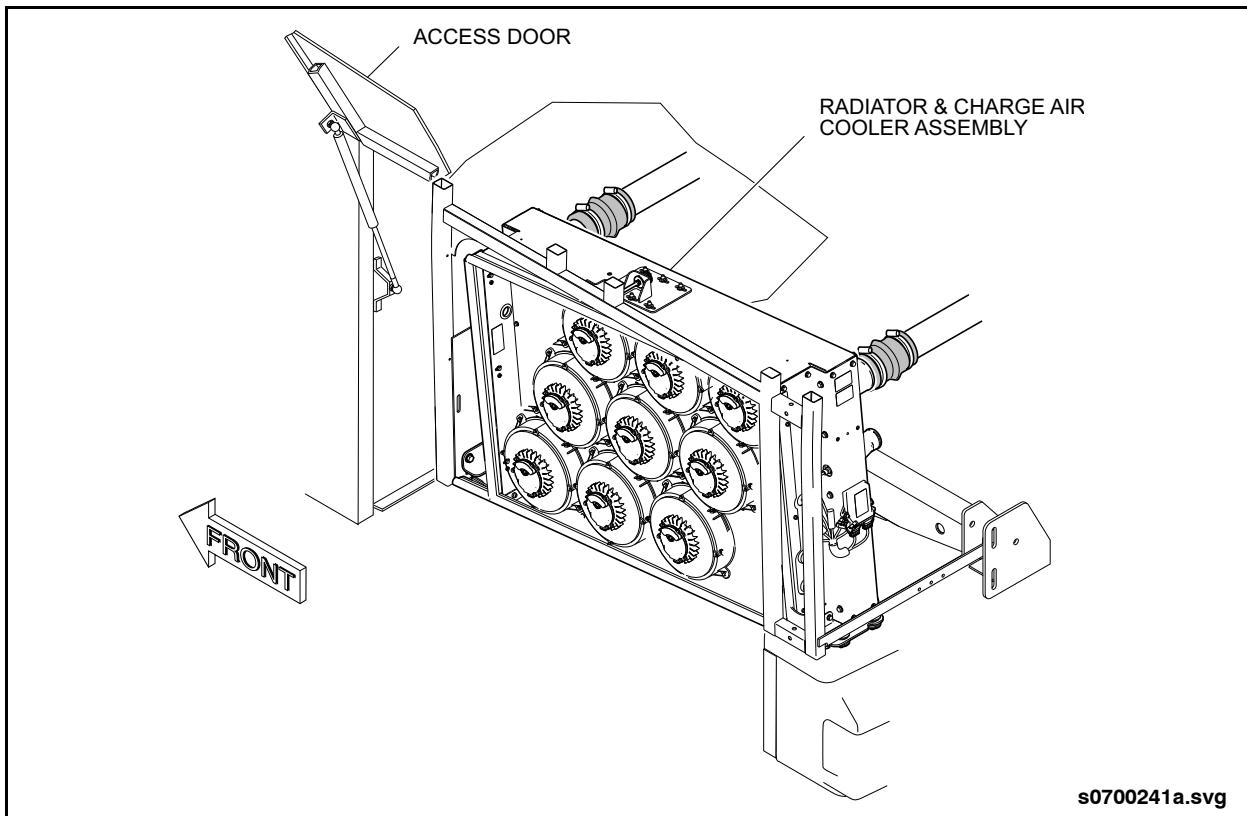

Fig. PM-2: Radiator Inspection
2. Check radiator and charge air cooling cores for leaks and for accumulation of dirt which obstructs air passage. As required, operate the fan reverse button on the engine gauges panel to assist in removing debris from the cores. Repair all cooling system leaks immediately. See “Fig. PM-2: Radiator Inspection” on page 24.